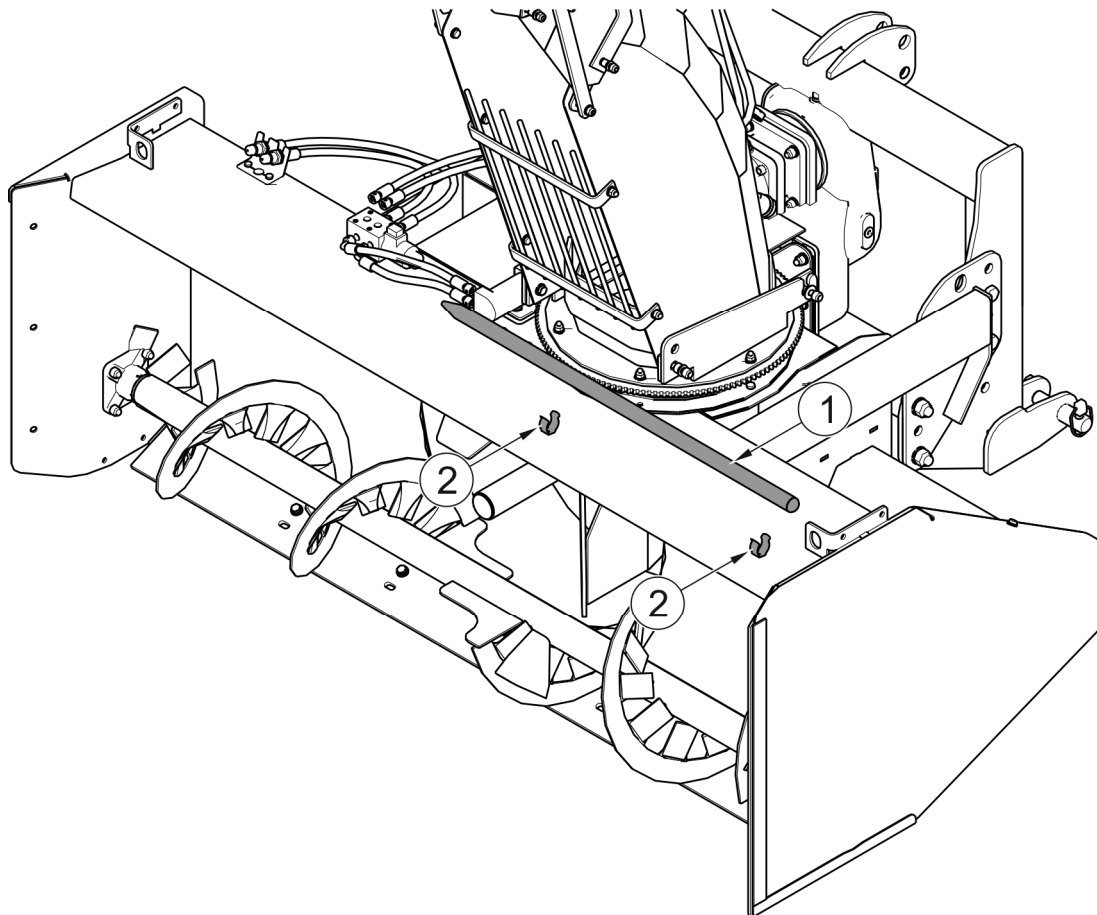

FIG. 4.11 **Removing blockages**
If the blockage is caused by the accumulation of snow, use wood pin (1) the supplied with the machine (FIG. 4.11). Pin (1) is mounted in brackets (2) on the machine casing.